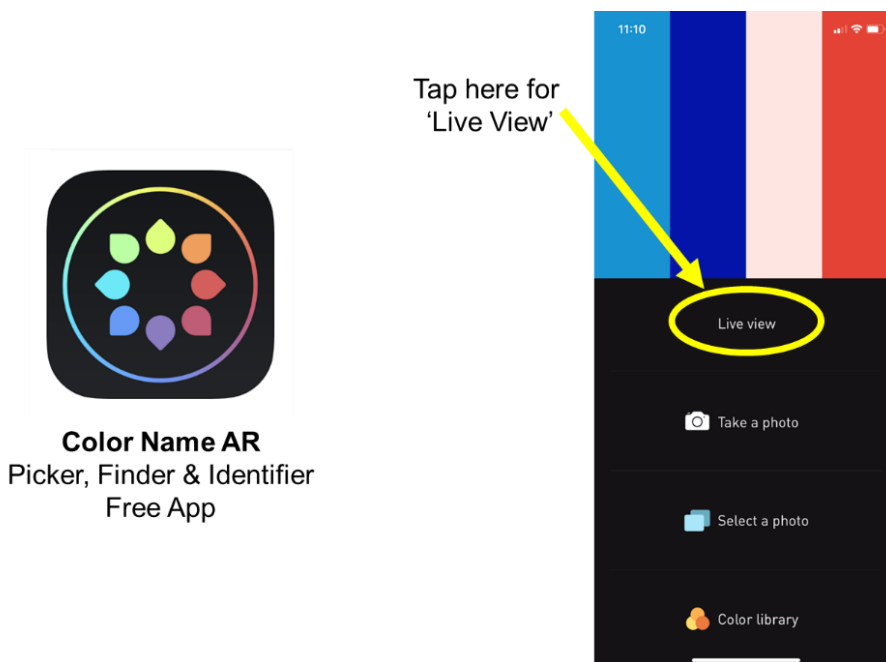

Figure 5: Select the 'Live View' within the 'Color Name AR' app
9. Open the 'Color Name' app on your smartphone. Select 'Live view' and after a few seconds, tap the color identifier box (the white box), and record the first number of the RGB value onto your data sheet. This corresponds to the initial Red value (R_0). It is the amount of red light that is passing through the solution before the blue dye is added. It is being detected by the smartphone camera. See Figures 5 and 6.